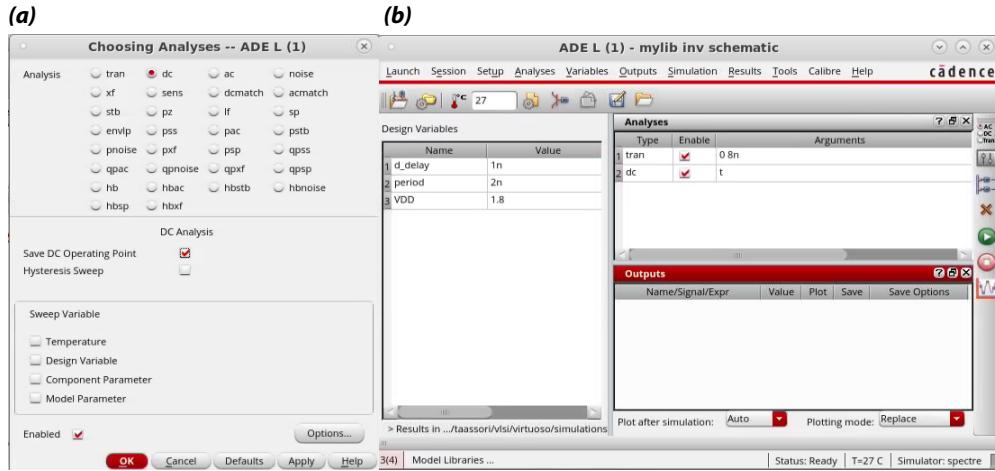

Figure 7: (a) Choosing the DC analysis; (b) ADE windows after choosing DC and AC analysis.
- In your ADE L® window, create a new DC analysis. Select *DC*, and check *Save DC Operating Point* and click *OK*, as shown in Fig. 7 (a). You now should have 2 analyses in your ADE L® window (*trans* and *dc*), as illustrated in Fig. 7 (b).